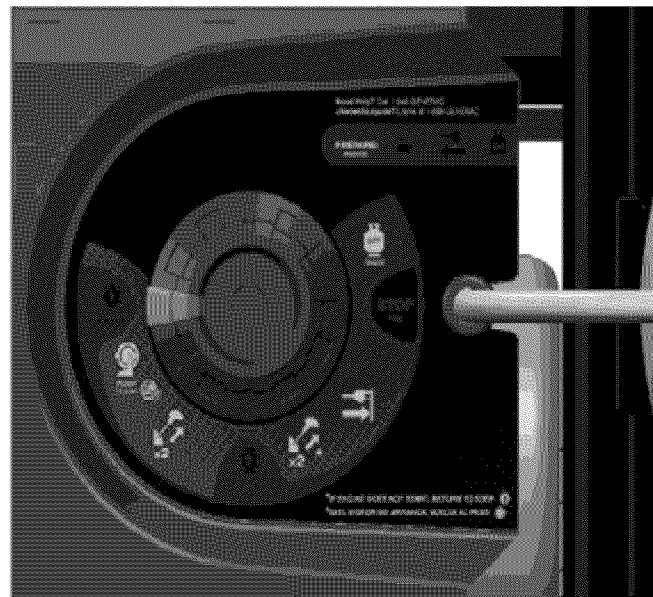

Figure 3-3: Power Dial
4. Turn engine POWER DIAL (Figure 3-3) to the #1 PRIME position and press down on the dial for five (5) seconds to allow fuel to enter the mixer.
7. Grasp the recoil handle and pull slowly until increased resistance is felt. Brace one foot on the frame cross bar, and then pull rapidly up and away to start the engine. Pull recoil up to two (2) more times if necessary to start the engine.